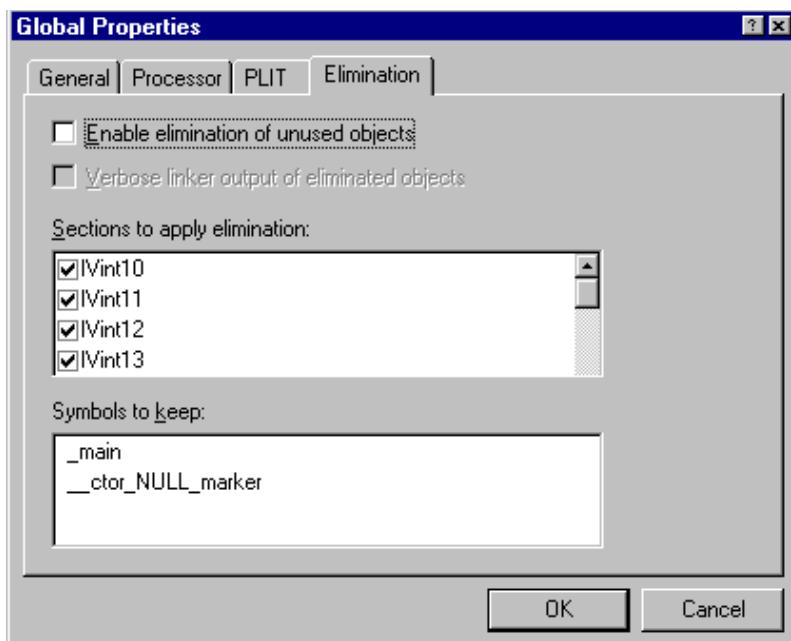

Figure 4-47. Elimination Page of the Global Properties Dialog Box
3. Click the **Elimination** tab to add or remove a symbol (Figure 4-47).